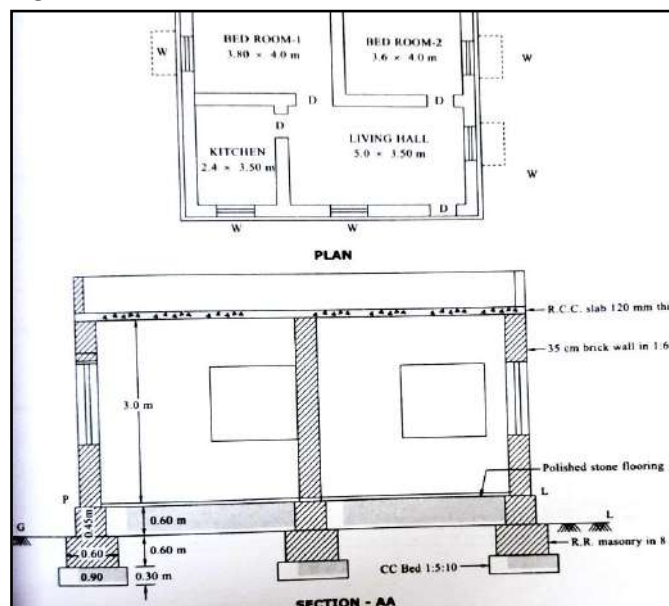

Fig.1
12. A) Prepare the detailed estimate for the following items of works from the fig.1
B) Prepare the detailed estimate for the following items of works from the fig.1 (CO3)